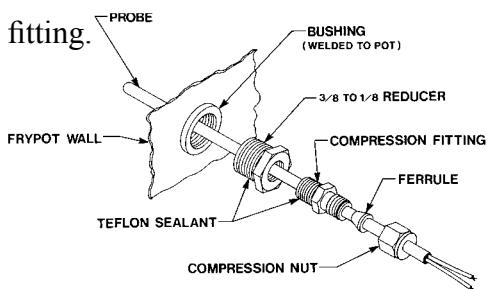

Figure 2-1
6. Place nut and new ferrule on new temperature probe and insert the temperature probe into the compression fitting until it extends 1/2 inch (1.3 cm) into the frypot. Use the temperature probe gauge provided in the temperature probe kit to ensure proper placement in frypot. See Figures 2-1 and 2-2.